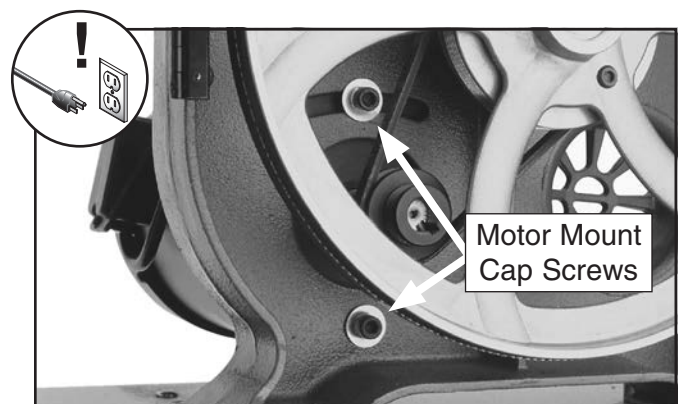

Figure 44. Motor mount cap screws.
2. Open the lower wheel cover, and loosen the motor mount cap screws shown in **Figure 44**.